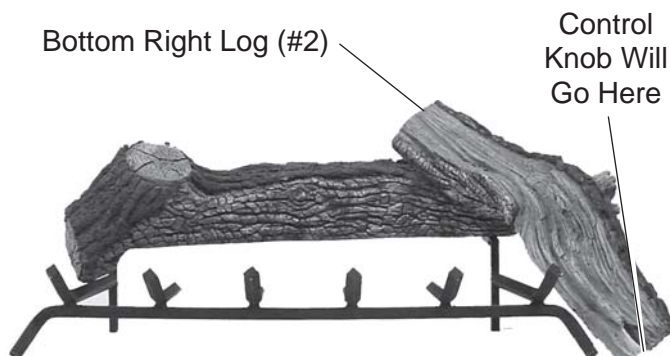

Figure 139 - Placing Bottom Right Log (#2)
3. Place Bottom Right Log #2 along outside of grate. Rest end on Rear Log #1. Control knob will stick through bottom notch of log. *See Figure 139.*